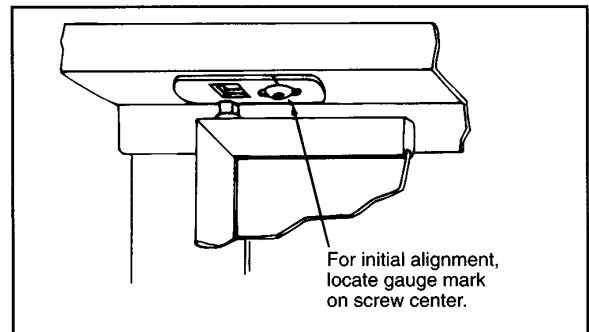

FIGURE 2
2. Be sure the upper hinge mounting plate is aligned properly with the screw head centered on the gauge mark on the plate (**Figure 2**).